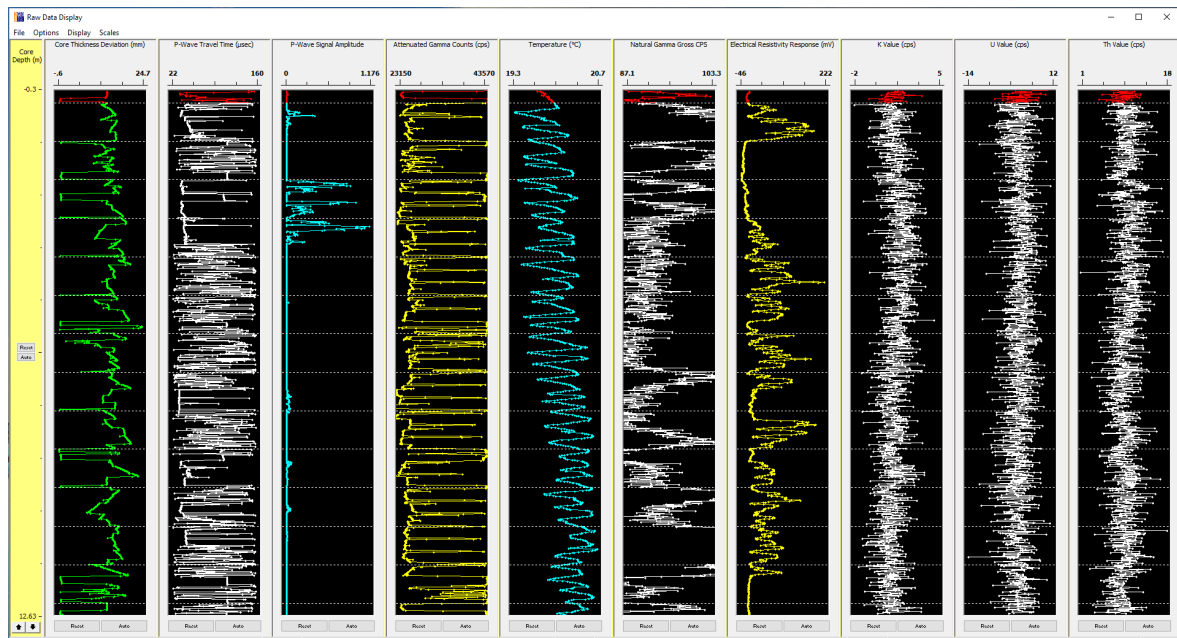

Figure 4.13: Raw Data Display panel in the MSCL-S software
- While it is doing this the user can observe the raw data being collected in the 'Raw Data Display' panel (Figure 4.13) which appears automatically and can be formatted as desired.